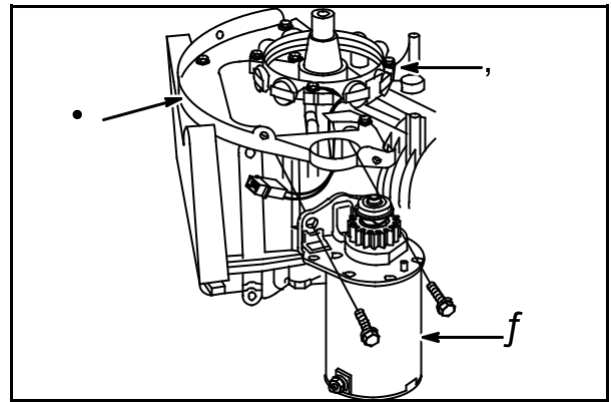

Fig. 15
Install back plate (1), **Fig. 15**. Torque screws to **65 in. lbs. (7 Nm)**.